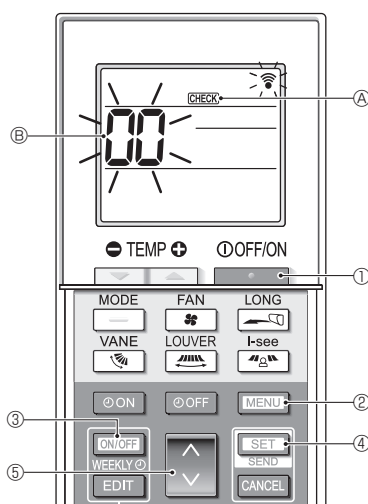

Fig. 7-6
7.3.2. Wireless remote controller (Fig. 7-6)
- Press the [ON/OFF] button ① to stop the air conditioner.
- If the weekly timer is enabled (WEEKLY is on), press the [ON/OFF WEEKLY] button ③ to disable it (WEEKLY is off).
- Press the [MENU] button ② for 5 seconds.
- [CHECK] ② comes on and the unit enters the self-check mode.
- Press the [MODE] button ⑤ to select the refrigerant address (M-NET address) ⑥ of the indoor unit for which you want to perform the self-check.
- Press the [SET] button ④.
- Press the [ON/OFF] button ①.
- [CHECK] ② and the refrigerant address (M-NET address) ⑥ go off and the self-check is completed.